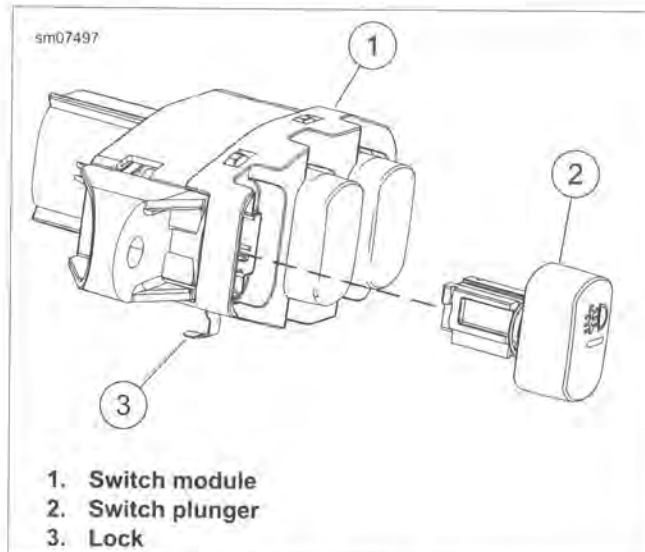

Figure 7-52. Switch Module Components
- See Figure 7-52. Lock (3) extracts approximately 1/8 in (3.2) and does not come free from housing.
3. Gently pry lock (3) outward to release switch plunger (2).
1. See Figure 7-52. Push plunger (2) into switch module. Push lock (3) into place.